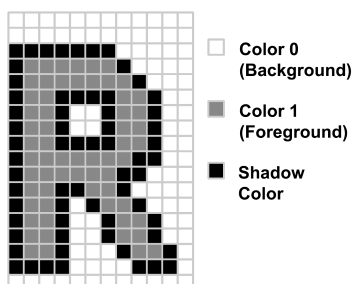

Figure 22. Bordering
4. **Bordering**—A border can be added to the two-color characters. When a character is bordered, a border pixel is added at every horizontal, vertical or diagonal transition between color 0 and color 1. See Figure 22. The color of the border is determined by the value in the color palette register EF3 (normally black).